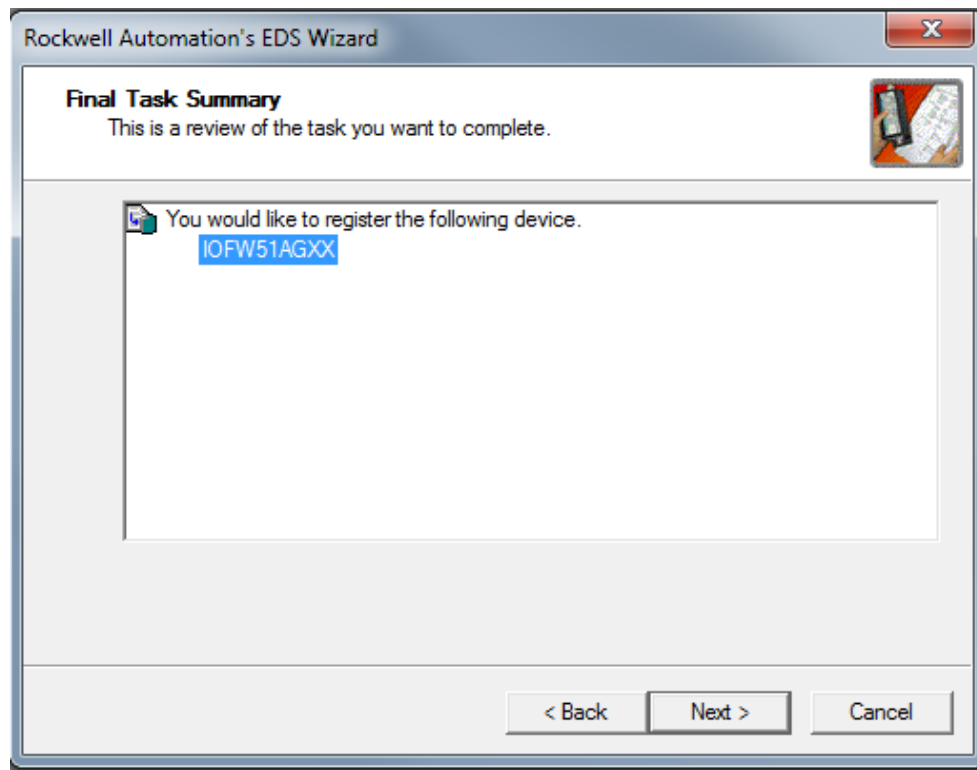

Figure 8: Confirm registration
- 2) To install the EDS file into RSLogix 5000, use the EDS Hardware Installation Tool. Follow Figure 4 - Figure 8 below.